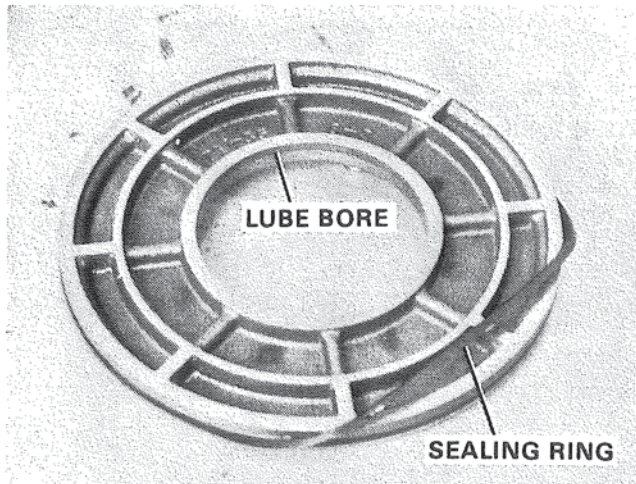

Figure 74. Assembling Sealing Ring.
2. After lubricating sealing ring with petroleum jelly, assemble in groove of reverse clutch piston. Figure 74.